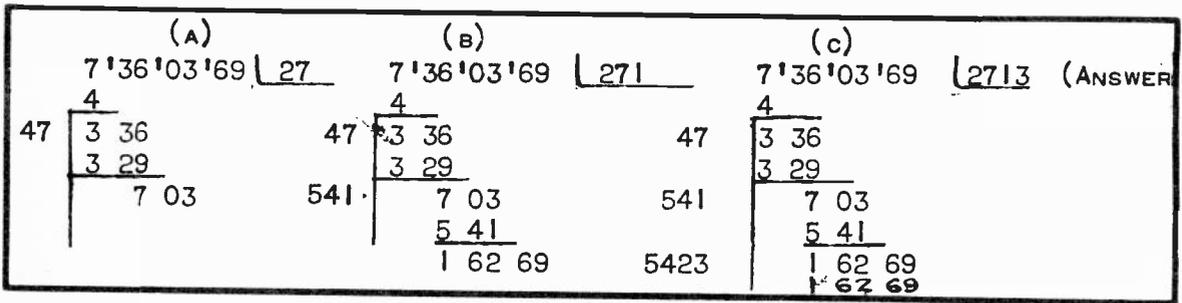

FIG. 26
SOMETIMES, YOU WILL WORK WITH A NUMBER HAVING AN ODD NUMBER OF FIGURES OR DIGITS, SUCH AS WHEN EXTRACTING THE SQUARE ROOT FROM 7,360,369 IN WHICH THERE ARE SEVEN DIGITS. IN THIS CASE, DIVIDE THIS NUMBER INTO GROUPS OF TWO DIGITS EACH AS AT (A) IN FIG. 26. THIS WILL LEAVE ONLY THE SINGLE DIGIT 7 AT THE EXTREME LEFT, SO DETERMINE THE GREATEST POSSIBLE SQUARE WHICH IS EQUAL TO OR LESS THAN 7. THIS, OF COURSE IS 4, OF WHICH THE SQUARE ROOT IS 2 AND THEREFORE, WE PLACE THIS 2 AS THE FIRST FIGURE IN THE